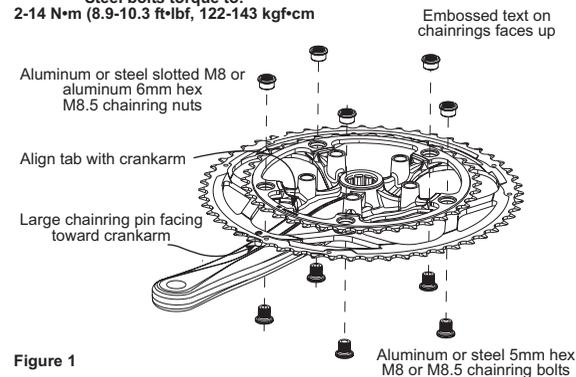

Figure 1
**Road cranksets:** Using a 5mm hex wrench and a chainring nut spanner or 6mm hex wrench, depending on the chainring nuts that were included with your crankset, assemble the large chainring, middle chainring, and prepared chainring nuts and bolts as shown in Figure 1. Make sure the large pin on the large chainring and the alignment tab on the middle ring are oriented in line with the crankarm as shown in Figure 1.
**Track and BMX cranksets:** Using a 5mm hex wrench and a chainring nut spanner or 6mm hex wrench, depending on the chainring nuts that were included with your crankset, assemble the single BMX or track chainring. Five-arm BMX cranksets and track cranksets have only one chainring that ONLY fits in the position of the middle chainring shown in Figure 1. A chainring can NOT be assembled in the large chainring position on a BMX or track crankset.